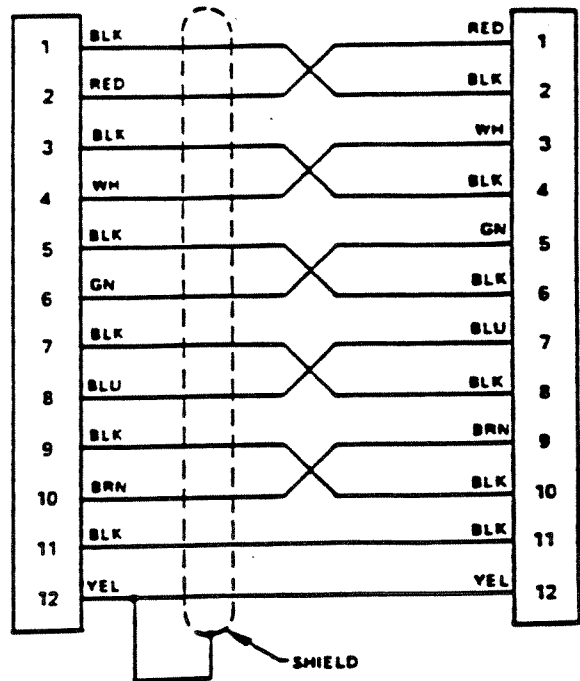

Fig. 7 - Stereo Coupler Cable
**Stereo Coupler** When a suitable cable joins this connector to the Stereo Coupler connector on another Model 165, and when one of the units is switched to "slave" mode, the two units may then be utilized for processing a stereo program. A multi-pin male connector is supplied with each 165 so the coupler cable can be assembled using the wiring diagram in Figure 7.
When you wish to link two Model 165's for processing a stereo program, a cable must be constructed to join the Stereo Coupler connectors on the two units. Use the mating connectors supplied with each Model 165, and wire the cable according to Figure 7. Use connectors supplied with units, or equivalent (Cinch-Jones P-312-CCT). The cable should be 6-pair, twisted 24 ga. wire with shield (Belden 9506).